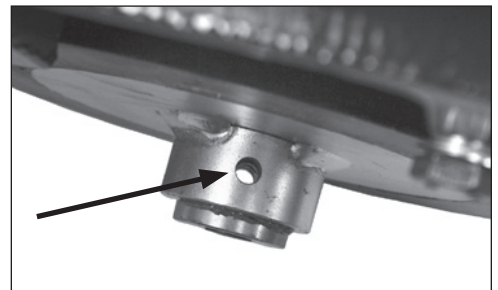

FIG. 2
1. Line up wheel hub hole and axle hole (Figure 2).